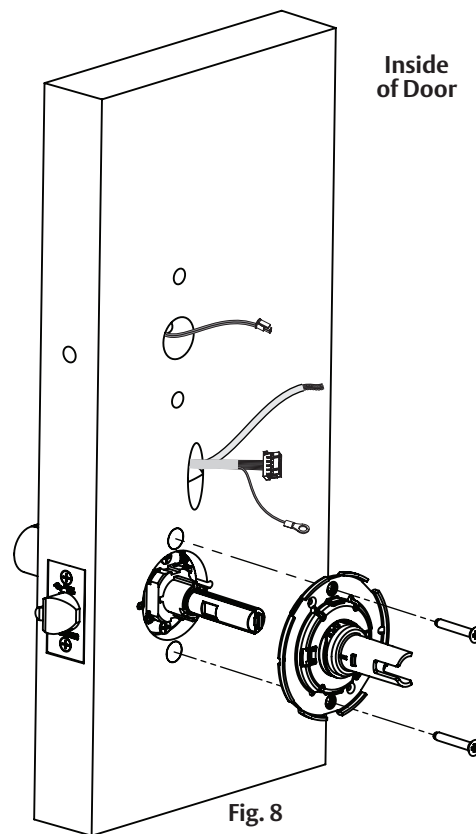

Fig. 8
- For wood door, feed connectors and wires through the door and up the wire run channel (Fig. 8).
3. Secure rose assembly with (2) #10-32x1-1/4" through-bolts.
4. Secure latch by fully tightening (2) #8 x 3/4" self-tapping screws (refer to previous step 3 - Install Latchbolt).